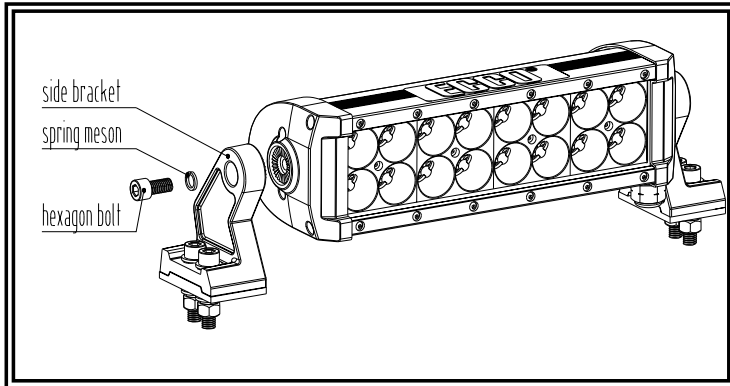

Figure 1
1. Attach the bolt through the hole and side bracket using the spring locking bolt. See Figure 1.